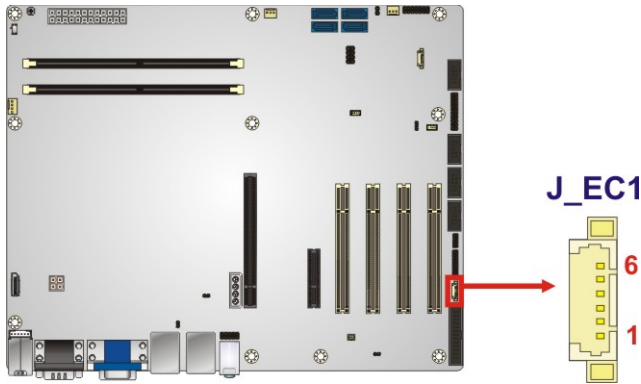

Figure 3-28: SPI EC Flash Connector Location
- CN Location:** See **Figure 3-28**